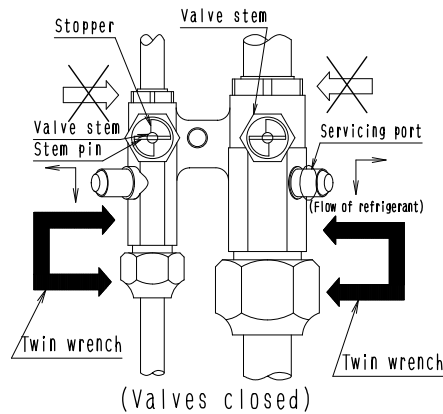

Fig. 5
The names of the parts necessary for handling the pipe stop valves for the indoor and outdoor units are described in Fig. 5. The valves are closed before shipment.
2. Stop turning the stem at the point where the stem pin comes in contact with the stopper. Now the valve is closed. (Refer to Fig. 5)